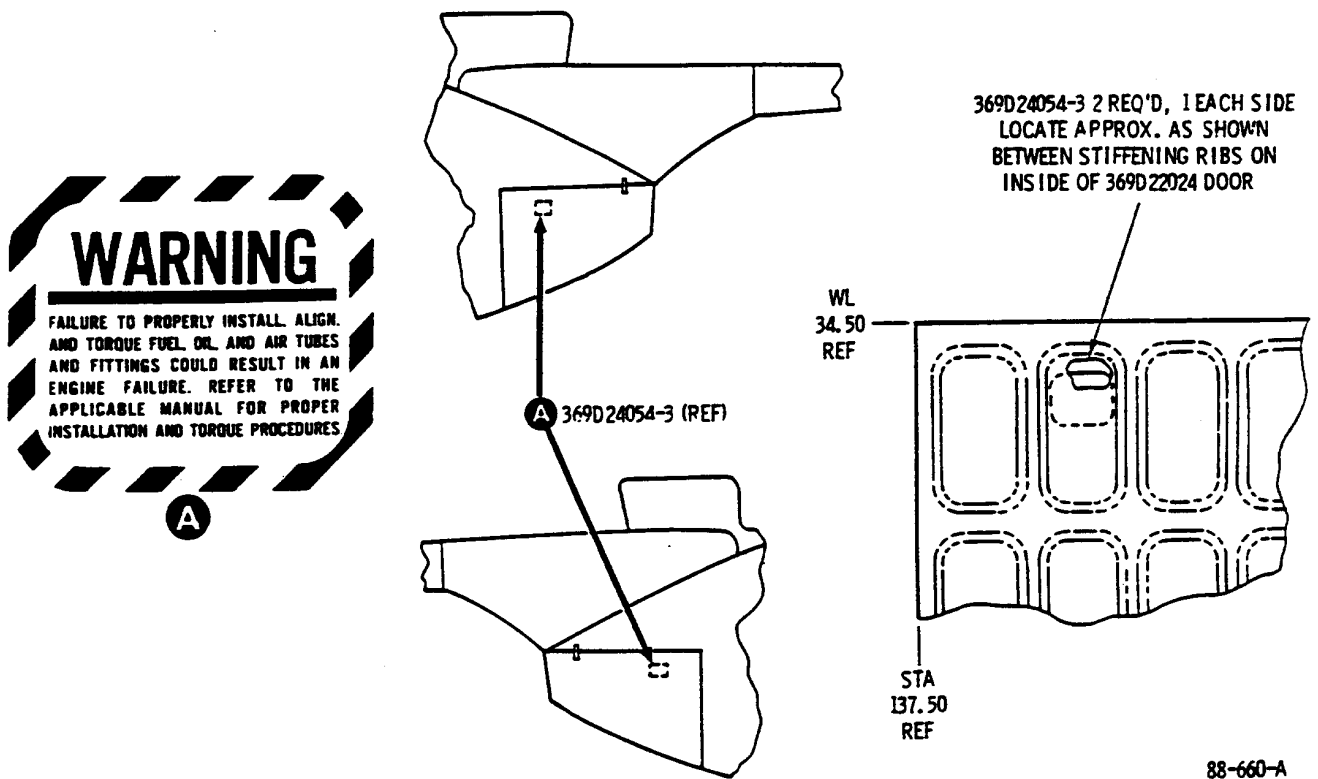

Figure 1. Engine Compartment Warning Decal Installation.
- b. Verify that 369D24054-3 warning decals are installed as shown in Figure 1. If warning decals are installed, no further action is required.
- c. Ensure surface where decals are going to be installed is clean and free of oil prior to installation. Install warning decals at locations shown in Figure 1.